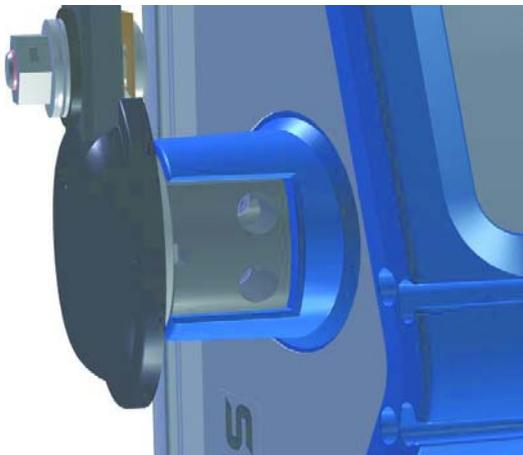

Figure 5: To mount the stirrup
- Insert both connector elements on both sides of the stirrup into the holder on each side of the SkyPanel (see Figure 5).
- Loosen and remove two allen screws on each side of the product (4 mm allen key, see Figure 5).